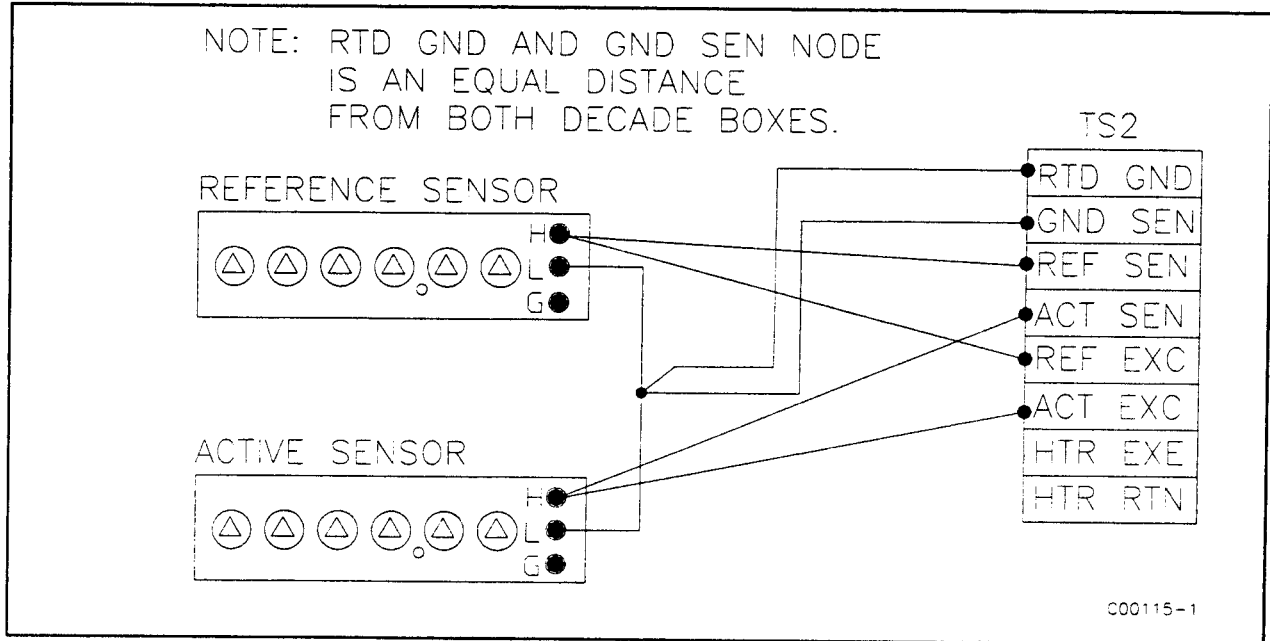

Figure 5-4. Decade Box Connections
3. Connect the resistance decade boxes to terminal strip TS2 (or the terminal block for remote instruments) as shown in Figure 5-4. Check the Delta R Data sheet for the nominal resistance value. Set the decade boxes for the nominal resistance value ±0.01%.